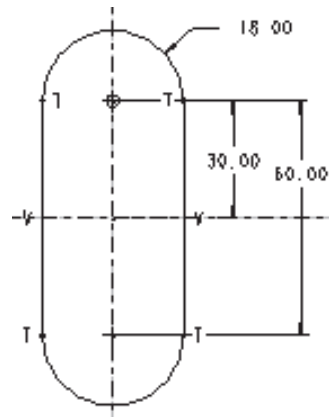

Figure 7-47 Sketch for the section of the sweep feature
After choosing the **Continue with the current section** button, the viewing direction is modified such that the start point of the trajectory becomes normal to the screen. A blue color cross of infinite length appears on the screen. You are prompted to draw a section for the sweep. The section of the sweep feature is as shown in Figure 7-47. Draw the section for the trajectory such that the sketch is symmetrical about these lines.
1. Draw the section sketch and then add the constraints and dimensions as shown in Figure 7-47.